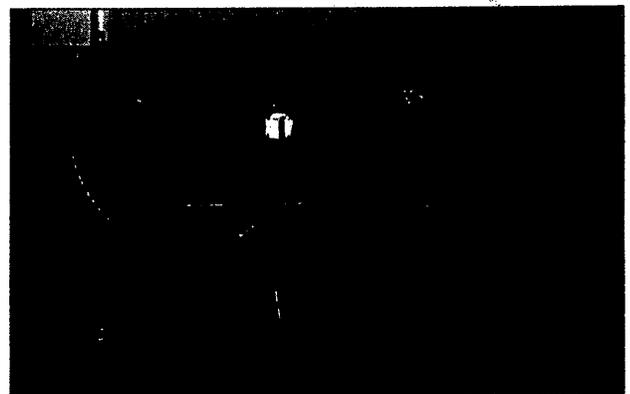

Figure 19
5. Plug the Connector on the wiring assembly into the receptacle on the top of the blower housing. See Figure 19.